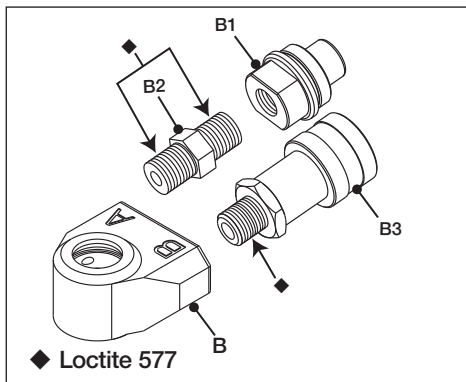

Fig. 19
- Apply Loctite 577 sealant to threads on female coupling (B3) and adapter (B2). See (◆) in Figure 19 for locations.